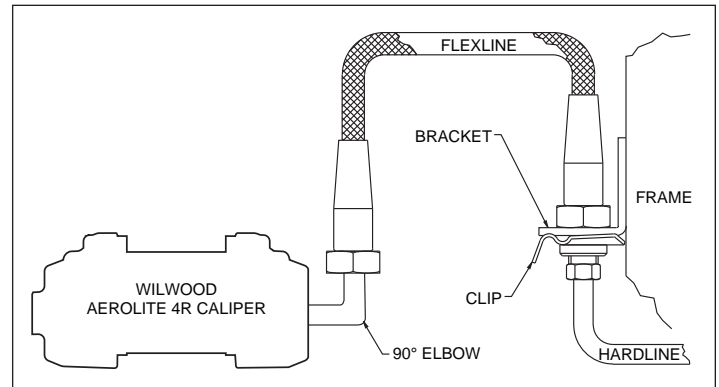

Figure 4. Brake Line Diagram
- NOTE:** The caliper in this brake kit utilizes a 1/8-27 NPT pipe thread inlet. OEM rubber brake hoses generally cannot be adapted to Wilwood calipers. Install Wilwood's stainless steel braided flexline hose kit, part number 220-8177 for C5, 220-9101 for C6 (both sold separately), as shown in Figure 4. **NOTE:** The specified Wilwood hose kits may not work on all Years, Makes, or Models of the vehicle that this brake kit is applicable to, due to possible OEM manufacturing changes during the vehicle's production life. **Carefully route hoses to prevent contact with moving suspension, brake, and wheel components.** It is the installer's responsibility to ensure that all fittings and hoses are the correct size and length, that they are properly sealed, and that they will not be subjected to crimping, strain, or abrasion from vibration or interference with suspension, brake, or wheel components.